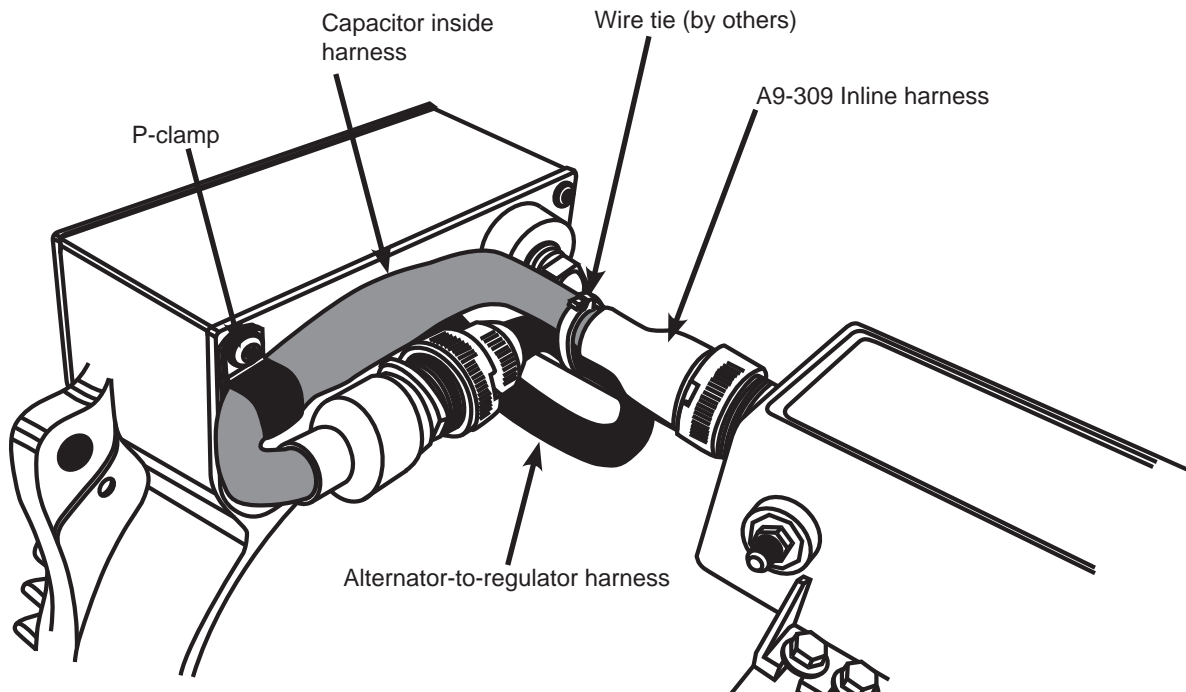

Figure 1 – A9-309 Inline Harness Installed on Alternator-mounted Regulator
Alternator-mounted regulators (see Figure 1):
2. Connect A9-309 inline harness between regulator and alternator-to-regulator harness. Make sure the alternator-to-regulator harness and the inline harness are positioned as shown in Figure 1.
3. Support harness as shown in Figure 1: